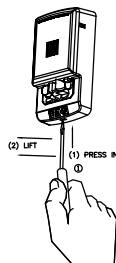

Figure 5: Cover Removal
8. To remove the appliance, insert a small flat-bladed screwdriver into the bottom opening 1/8" as shown in Figure 5. Then pry off beauty cover with the screwdriver.